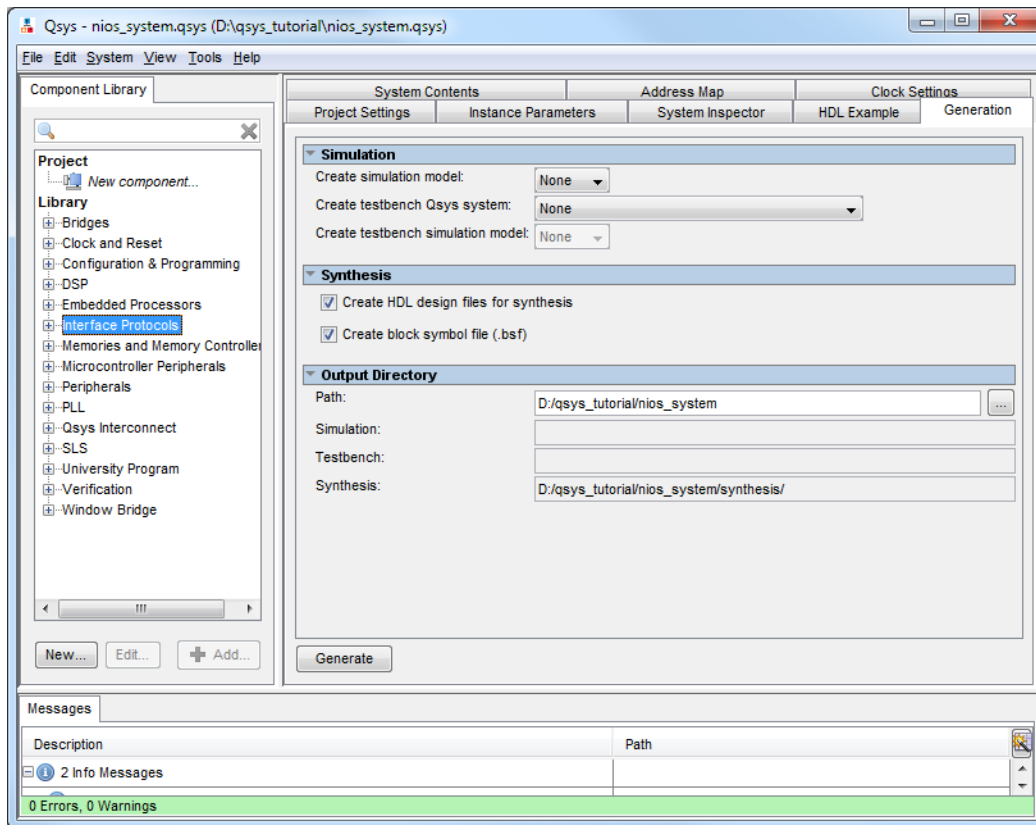

Figure 20. Generation of the system.
- Having specified all components needed to implement the desired system, it can now be generated. Save the specified system; we used the name *nios\_system*. Then, select the Generation tab, which leads to the window in Figure 20. Select None for the options Simulation > Create simulation model and Simulation > Create testbench Qsys system, because in this tutorial we will not deal with the simulation of hardware. Click Generate on the bottom of the window. When successfully completed, the generation process produces the message "Generate Completed".